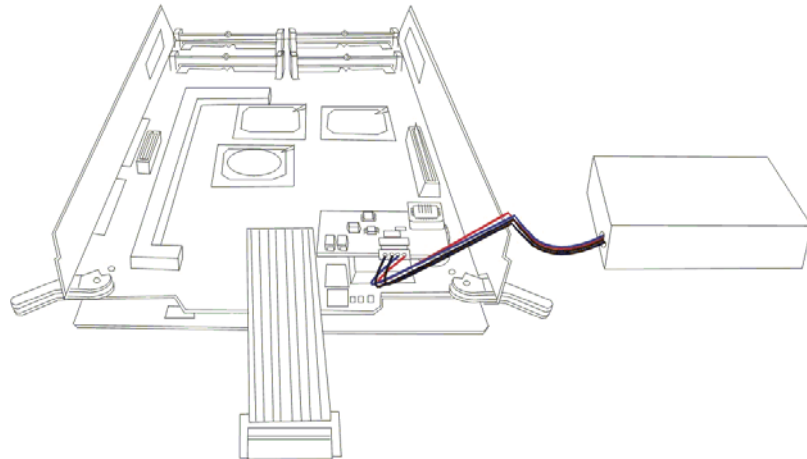

Figure 0-4: Disconnect the BBU Connector from the Charger Board
Step 2. Disconnect the BBU Battery Pack Connector – Once the controller board has been removed, disconnect the failed BBU pack from the charger board connector. See *Figure 0-4*.